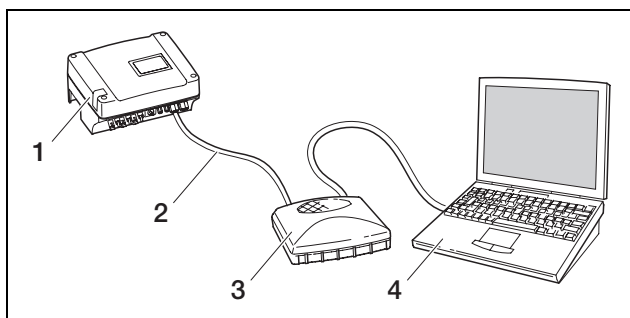

Fig. 40: Connecting inverter and computer with Ethernet cables and switch
- b) via a local network (switch and Ethernet cable, see figure 40).